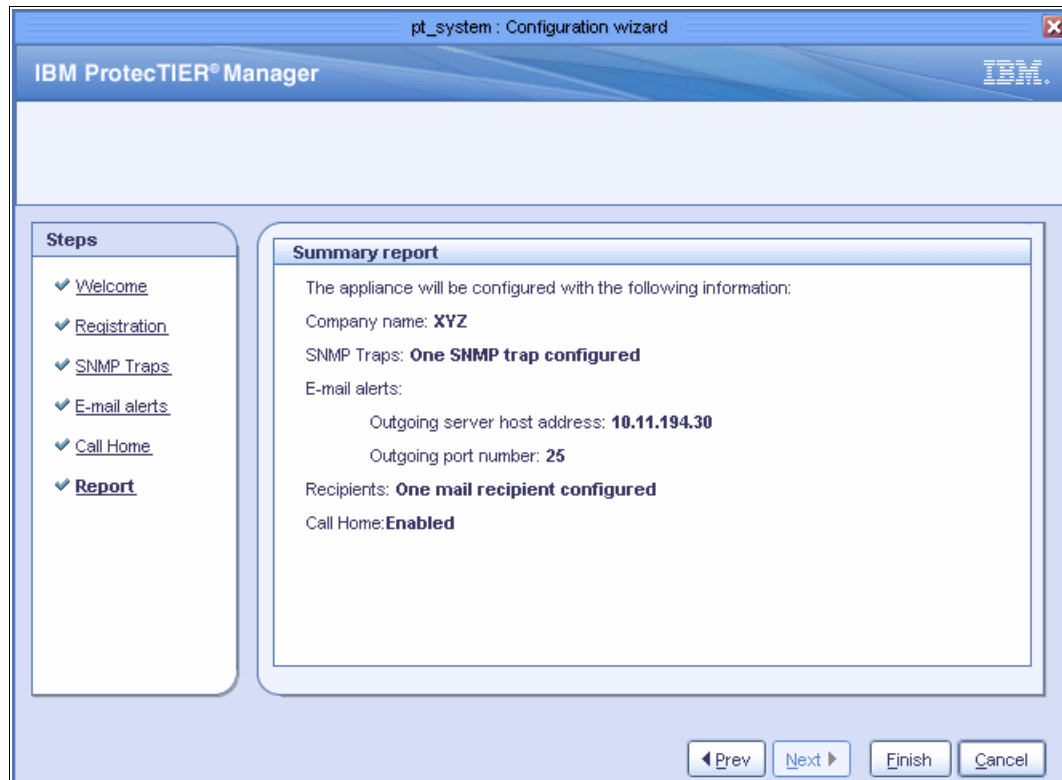

Figure 5-44 Summary report for the Configuration wizard
8. The Summary report window opens, as shown in Figure 5-44.